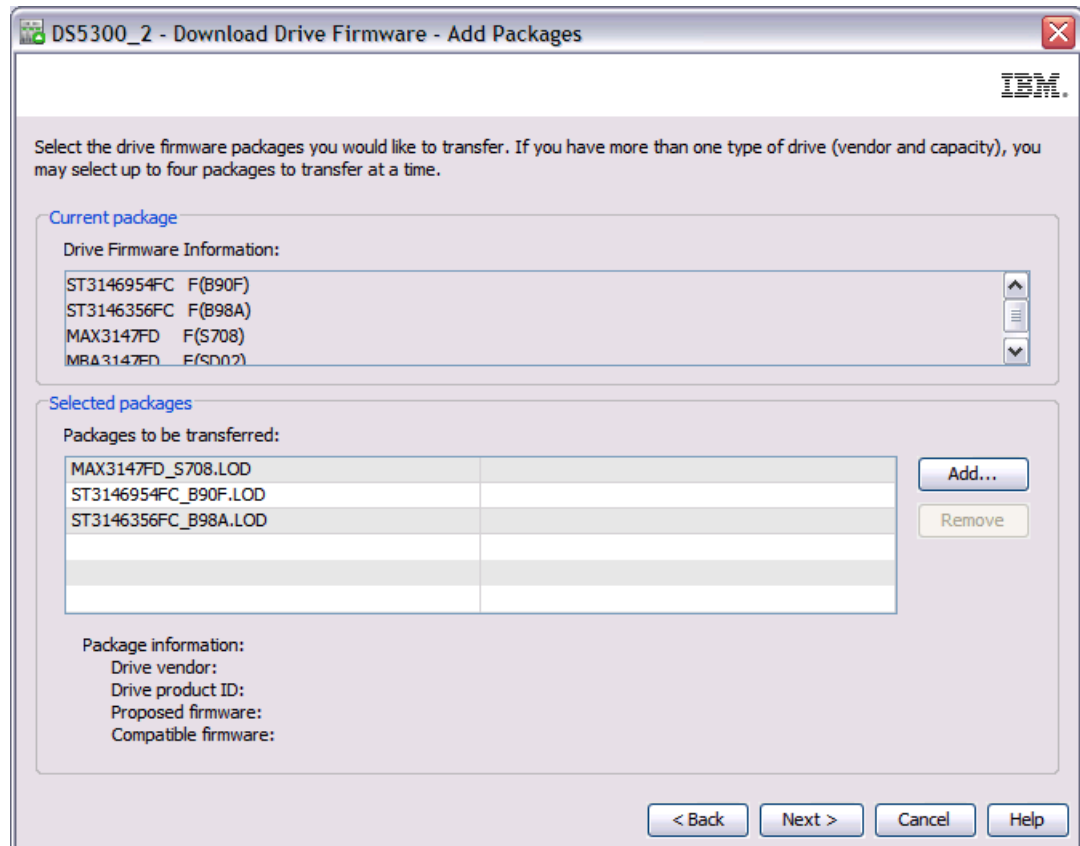

Figure 5-25 Adding drive firmware packages
5. You can select more drive firmware if you have different drives in enclosure as shown in Figure 5-25.